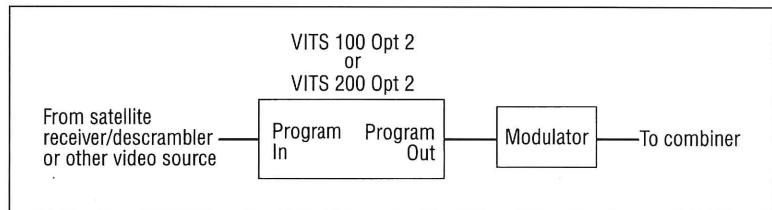

Figure 17. Setup of equipment in the headend for in-service measurement of in-channel response.
1. Connect the video signal to the PROGRAM IN connection on the back of the VITS inserter and connect the PROGRAM OUT signal from the VITS inserter to the modulator as shown in Figure 17. The BYPASS switch, on the front of the VITS inserter should be in the out position (bypass LED off).